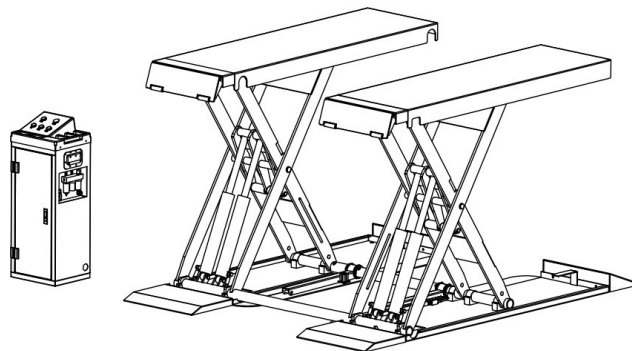

Fig. 27
1. Lubricate the rack as shown in Fig. 27. Grease must be taken from completely sealed cans and/or those that have been stored properly. Old or spoiled grease can damage the lubricated part.